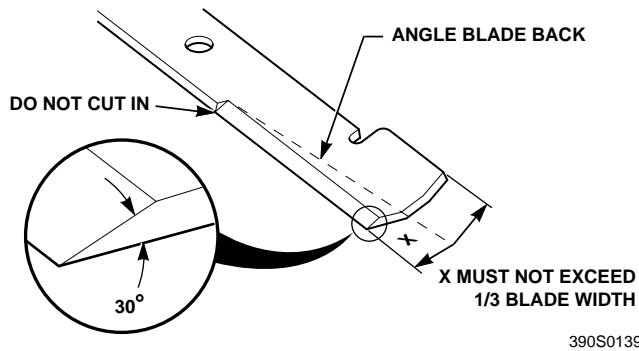

Figure 7-7 Blade Sharpening
1. Sharpen the cutting edge at the same bevel as the original. See Figure 7-7. Sharpen only the top of the cutting edge to maintain sharpness.